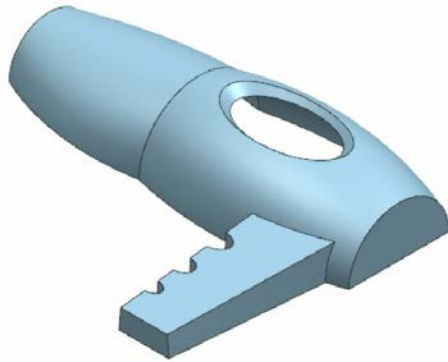

Figure 11-112 Model after trimming the surface
9. Invoke the **Trim Sheet** tool and trim the base surface using the projected curve. The model after trimming the surface is shown in Figure 11-112.